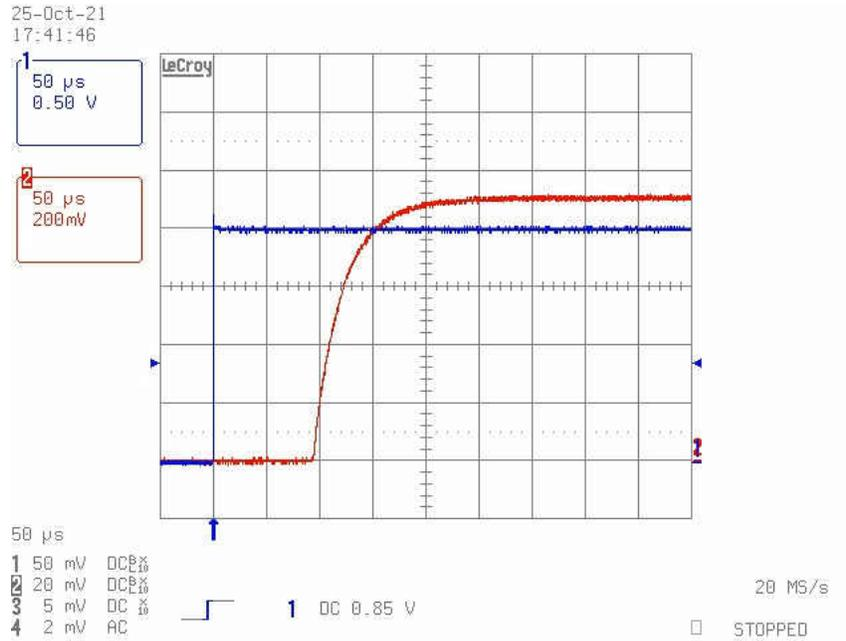

Figure 3-1. TPS7A13EVM-057 Turn On
Alternatively, by connecting an external function generator to TP1 (EN) and a nearby GND post (J11), the user can enable or disable the TPS7A13 LDO after VIN is applied. Figure 3-1 shows the result of the TPS7A13EVM-057 during turn on. The blue trace is the enable voltage, and the red trace is the output voltage.